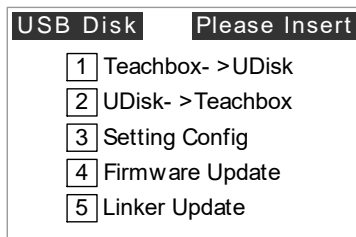

Fig.3-48: USB-Disk-edit Interface1
2. In the Main Menu Interface, press the button **3** to enter the **USB Disk Interface**. And connecting USB disk, the system will detect the USB and displaying as following (Fig. 3-48 & 3-49).